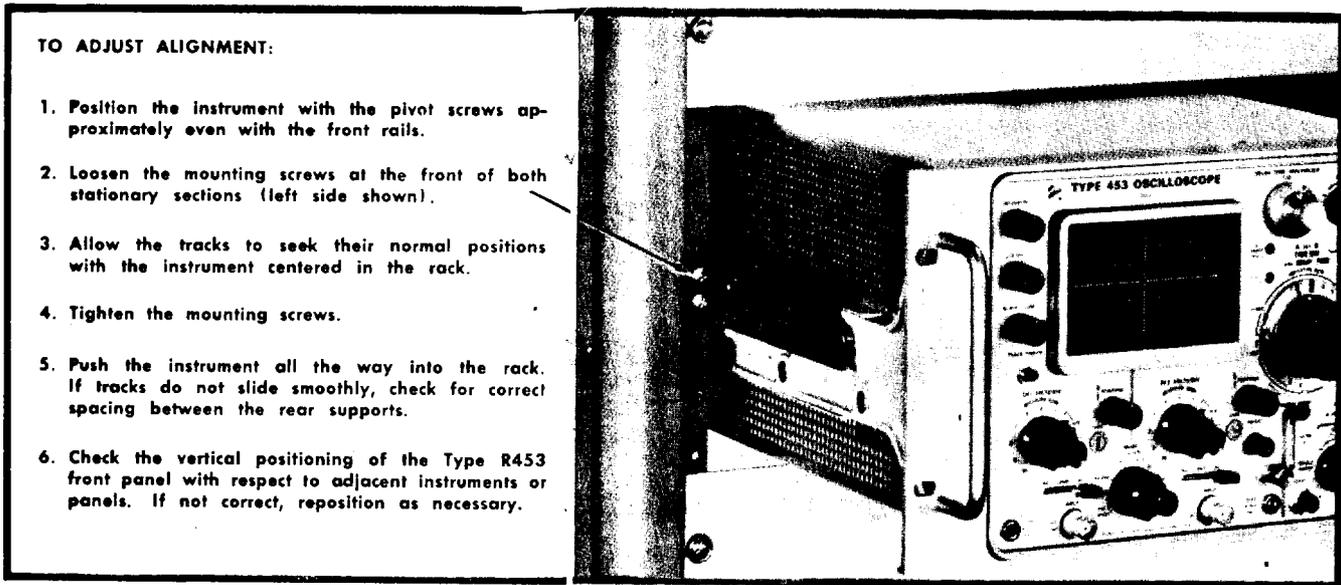

Fig. 10-10. Alignment adjustments for correct operation.
11. Adjust the alignment of the stationary sections according to the procedure outlined in Fig. 10-10. (If the rear alignment is changed, recheck the rear support pins for correct alignment.)